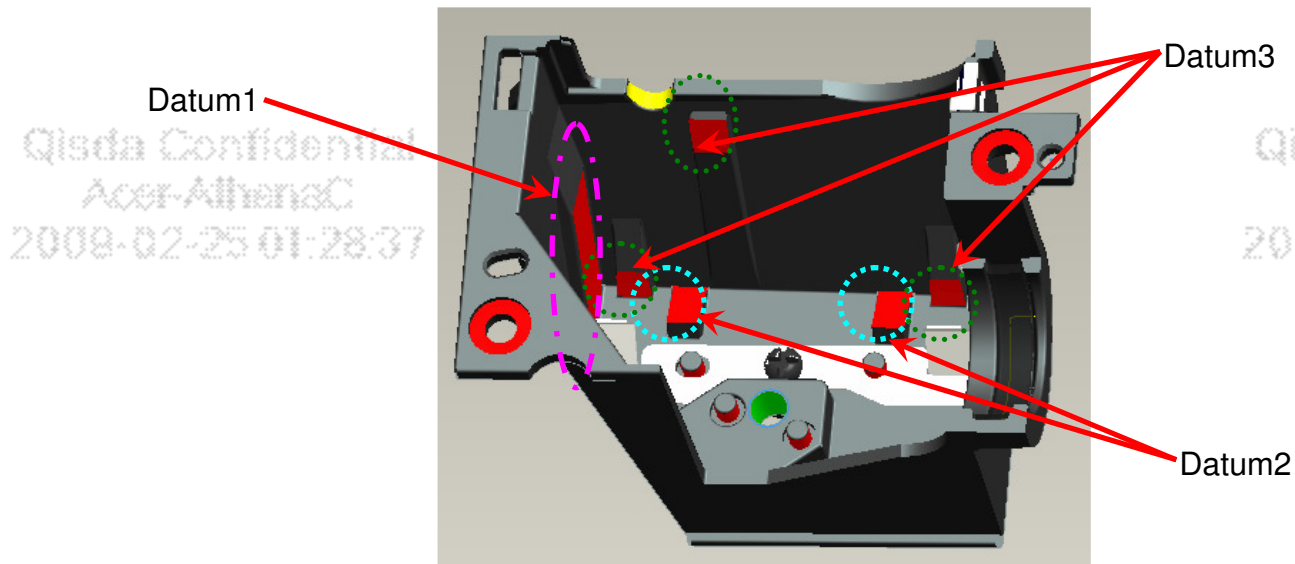

Fig. 3-3
- II. Assemble CM to HSG ILL and to make CM contact three datum on the HSG ILL Well (Fig. 3-3).